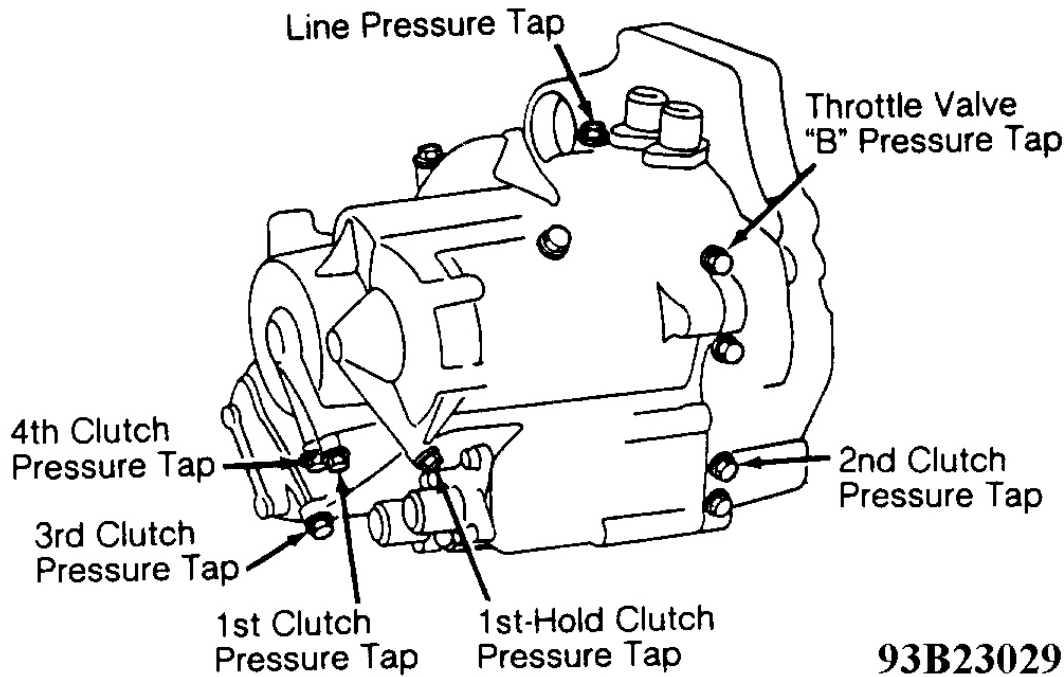

Fig. 4: Identifying Transaxle Pressure Taps
1. With engine off, remove plug from line pressure tap on transaxle. See **Fig. 4** . Attach Pressure Gauge Set (07406-0020003) to line pressure tap using NEW aluminum washer. Tighten hose fitting to 13 ft. lbs. (18 N.m).
NOTE: Check clutch pressure at each clutch pressure tap on transaxle. See **Fig. 4**.
1. With engine off, remove plug from appropriate clutch pressure tap on transaxle. See **Fig. 4**. Attach Pressure Gauge Set (07406-0020003) to appropriate pressure tap using NEW aluminum washer. Tighten hose fitting to 13 ft. lbs. (18 N.m).
1. The low/high pressure is tested at 2nd, 3rd and 4th clutch pressure taps on transaxle. See **Fig. 4**. Disconnect Throttle Valve (T.V.) cable from transaxle T.V. lever.
1. Disconnect Throttle Valve (T.V.) cable from transaxle T.V. lever. With engine off, remove plug from throttle valve "B" pressure tap. See **Fig. 4**.